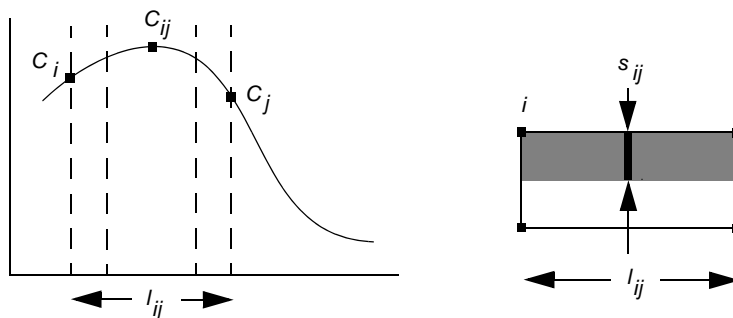

Figure 97 (Left) One-dimensional and (right) 2D representation of dose loss criteria
- $s_{ij}$  is the box size perpendicular to the edge between nodes  $i$  and  $j$  (see Figure 97).
The function in Figure 97 (left) is taken from the previous mesh (or from an analytic implantation). The box with four points in Figure 97 (right) represents one cell of the mesh